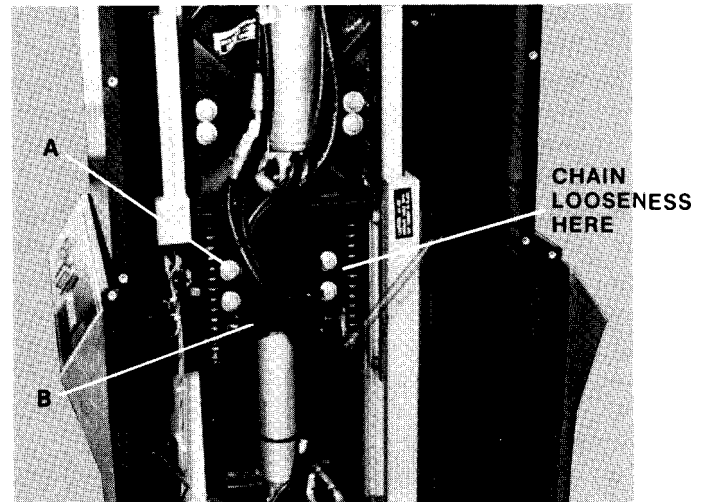

Fig. 32
Excessive sideways play of the table may be due to loose chains. Chain looseness will be noticed only on the lower portion of the chain loop near the idler sprockets (see Fig. 32). Adjustments may be done as follows:
- 3) Loosen the (4) bolts, Item A, Fig. 32, with a 9/16" wrench.
- 4) Insert a prybar or large screwdriver in the center of the slot, Item B, Fig. 32, and pry up firmly. While prying up, tighten the (4) bolts, Item A, Fig. 32. The chains should not be drum tight, but with a little spring back and there should be equal tension in both chains.